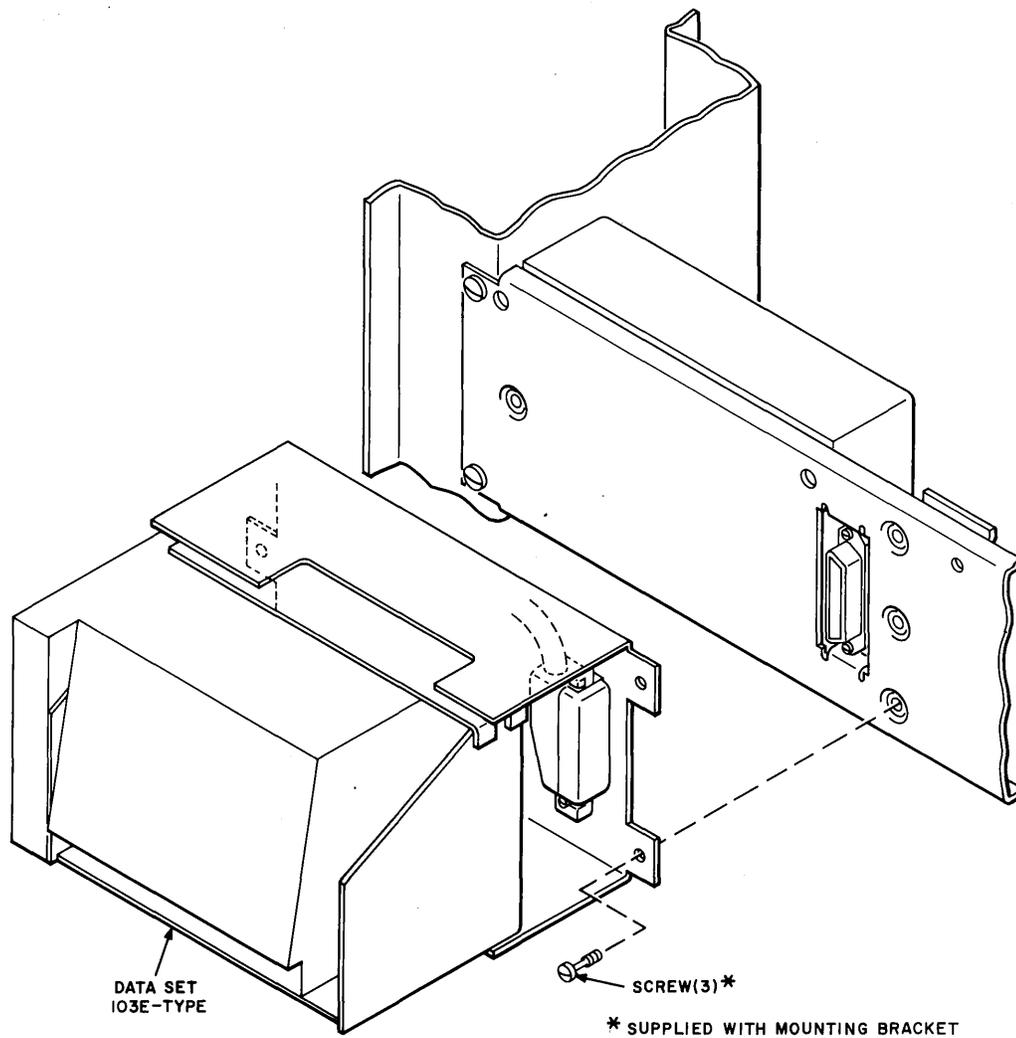

Fig. 14—Details for Mounting Data Set 103E-Type
3.28 Installation of each data set should be in accordance with Fig. 14.